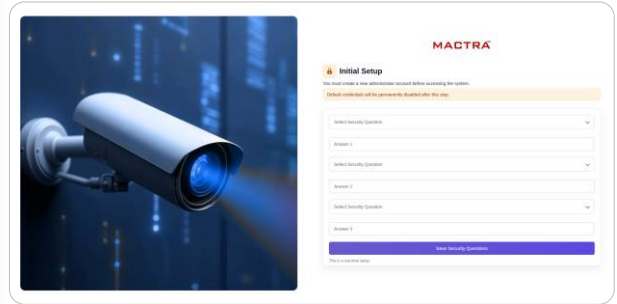

Figure 3: Security Questions Setup
- These are required to verify the administrator's identity and securely recover access to the device if the password is forgotten, as shown in **Figure 3**.